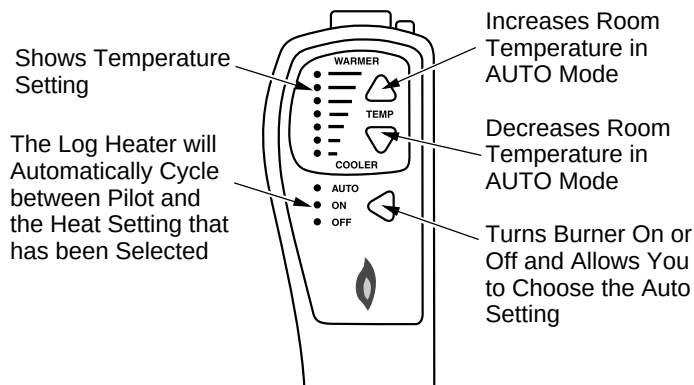

Figure 35 - Thermostat Hand-Held Remote Control Unit Selections (GHRCTA Series only)
- 2b. Press the AUTO/ON/OFF button on the hand-held remote control (see Figure 35). The lights to the left of the button will show AUTO, ON, or OFF.